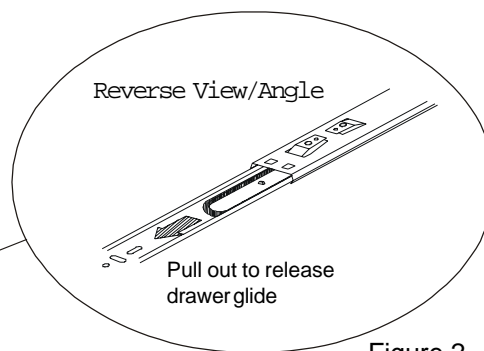

Figure 2
5. Pull the drawer again gently until it stops. At the same time, from underneath, pull on both release tabs (see figure 2) to disengage the drawer from the track and pull drawer out.